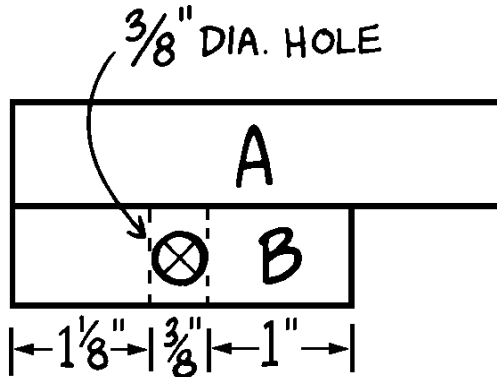

Figure 2
4. Repeat Step 3 to attach the remaining desktop brace (B) to the opposite end of the desktop (A).
- Each of the desktop braces (B) must now be drilled to accept a dowel rod (C). Using the placement dimensions given in *Figure 2*, drill a $\frac{3}{8}$ "-diameter hole, $\frac{1}{2}$ " deep, in the end of one desktop brace (B).